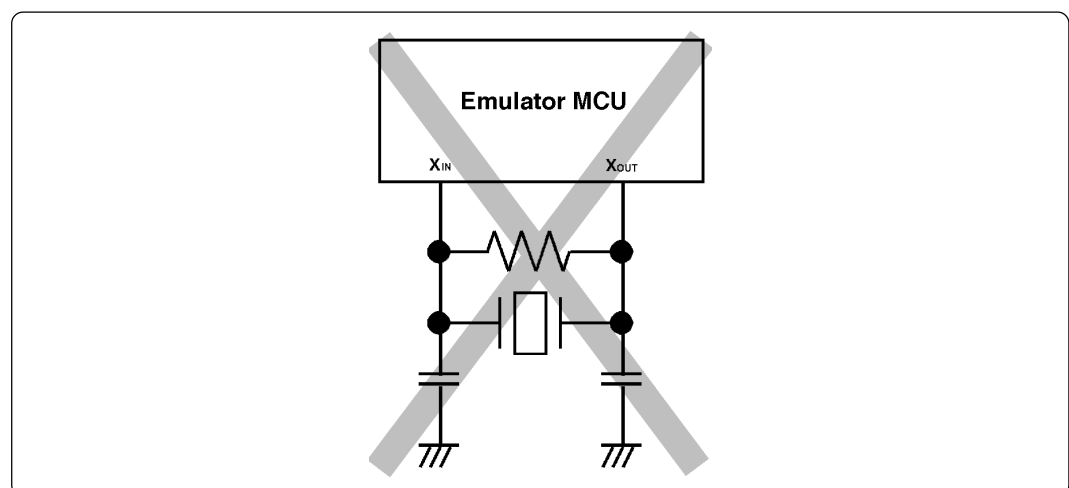

Figure 3.4 Circuit in which oscillation does not occur (same for XCIN -XCOOUT)
- Make note of the fact that in the oscillator circuit shown in Figure 3.4 where a resonator is connected between the XIN and XOUT pins, oscillation does not occur because a connector and other devices are used between the evaluation MCU and the target system. It is same for sub-clock oscillator circuits (XCIN and XCOOUT).